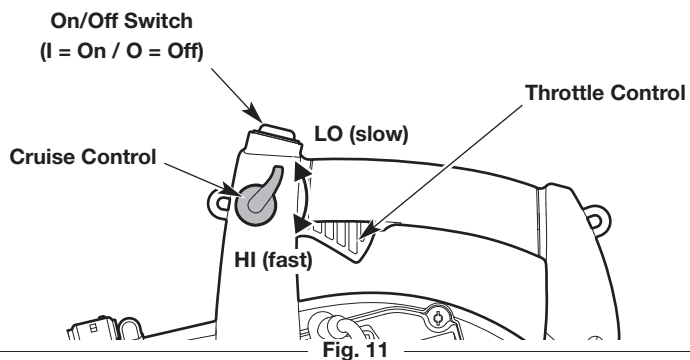

Fig. 11
NOTE: There is no need to turn the unit on. The On/Off switch is in the **On (I)** position at all times (Fig. 11).
4. Squeeze and hold the throttle control or move the cruise control to the **HI (fast)** position (Fig. 11).
NOTE: Continue to **SQUEEZE and HOLD** the throttle control, or keep the cruise control in the **HI (fast)** position, for **ALL** further steps (Fig. 11).
2. Press and hold the On/Off switch in the **Off (O)** position until the engine comes to a complete stop (Fig. 11).
- Use the cruise control to make continuous operation easier (Fig. 11).